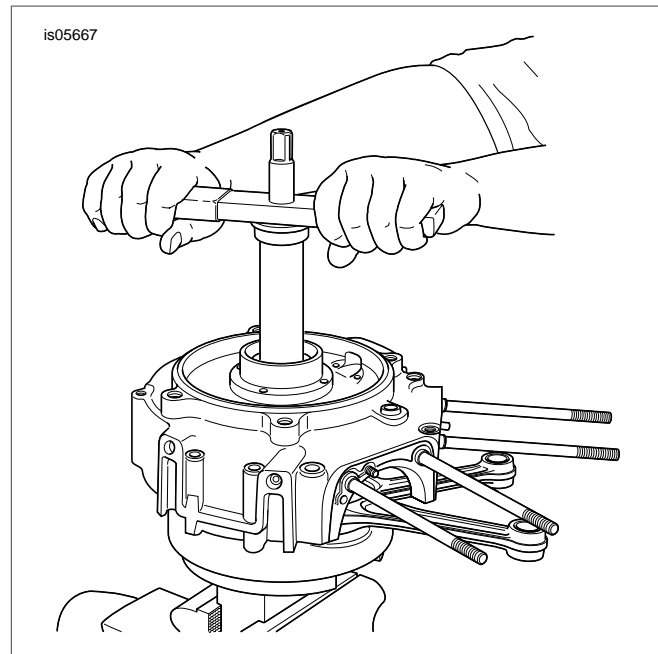

Figure 18. Press Outer Bearing Cone to Sprocket Shaft
16. See Figure 18. Rotate handle of tool in a clockwise direction until bearing cone makes firm contact with spacer ring. Inner and outer bearing cones must be tight against spacer ring for correct bearing clearance.